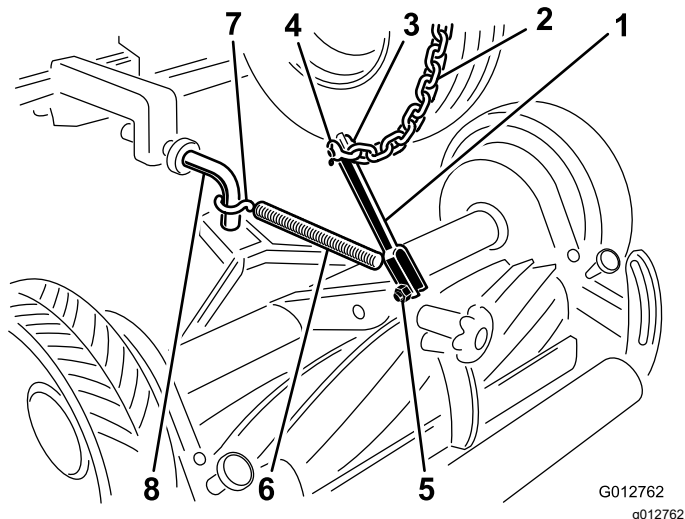

Figure 13
- Secure the lift bracket to #1 lift chain (rear center) with a long shackle, clevis pin, and cotter pin (Figure 13).
- Using the bottom mounting hole in the lift bracket, secure the lift bracket to the mower mounting bracket with a capscrew (3/8 x 1-1/2 inch) and locknut (3/8 inch) as shown in Figure 13.
- Hook the spring to the upper mounting hole in the lift bracket and the other end of the spring to the lift bail with the S-hook (Figure 13).